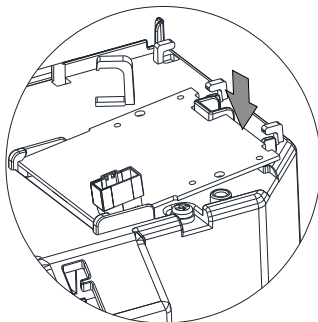

Figure 8-7
4. Press the upper end of the option card to engage the clips, as shown in Figure 8-7.